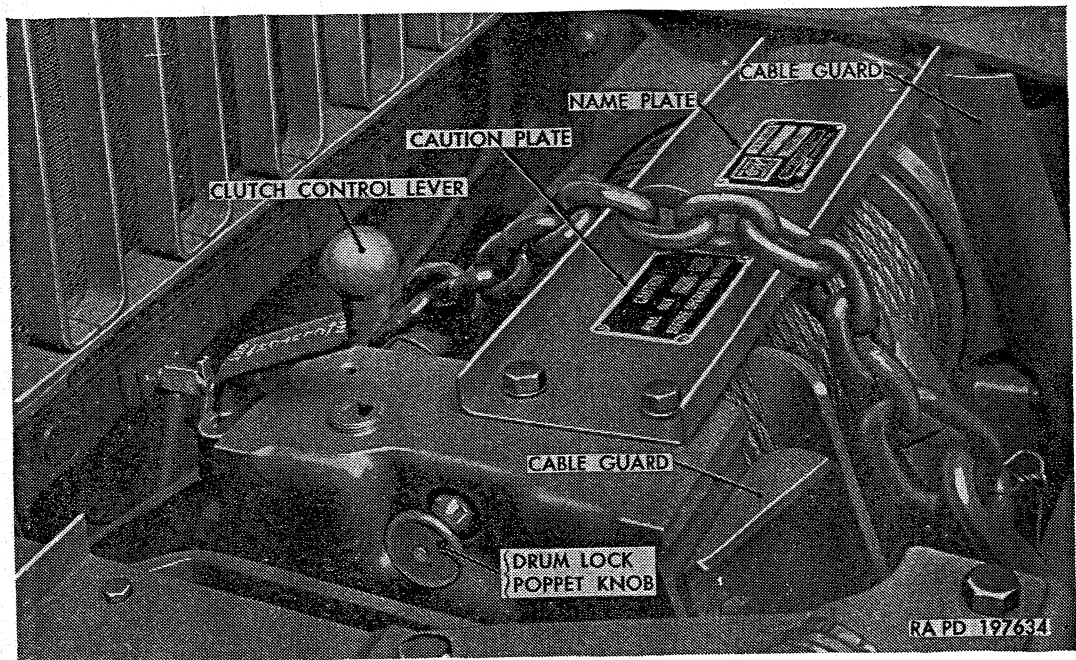

Figure 43. Controls at winch.
- (1) *Clutch control lever.* Hand-operated clutch control lever (fig. 43), located at right side of winch, is used to engage or disengage winch drum from power-take-off drive shaft. On late vehicles, the lever handle is marked CLUTCH IN with an arrow pointing away from winch, and OUT with an arrow pointing toward winch. These markings indicate direction to move handle to place drum in engagement or out
- (2) *Drum lock poppet knob.* Knob (fig. 43) on right side of winch frame permits locking drum to prevent unwinding of cable when underway. To lock or engage drum, the knob should be completely in to permit the poppet to engage one of several holes in the flange of drum. To disengage drum to permit winch operation, pull out knob and turn one-quarter turn.
- (3) *Automatic controls.* An automatic safety brake in winch mechanism will sustain the load while power-take-off lever
- (1) Place power-take-off lever (in cab) into CENTRAL NEUTRAL position.
- (2) Push clutch control lever at winch (fig. 43) toward winch (or in direction of arrow marked OUT on lever handle). Push lever against stop on some vehicles. Winch cannot be operated by power-take-off with lever in this position.
- (3) Make sure that drum lock poppet knob at winch (fig. 43) is in locked position (par. 48d(2)) to engage a hole in flange of drum. Cable will not unwind in this position.
- (4) Insert cable chain and hook through one front towing shackle; then place chain hook in opposite front towing shackle.
- (1) *With vehicle stationary.*
- (a) Pull out drum lock poppet knob (fig. 43); then rotate knob one-quarter turn to unlocked position.
- (b) Pull clutch control lever (fig. 43) as far as possible (in direction of arrow marked IN on lever handle) away from winch drum to engaged position.
- (2) *Winching out vehicle with driving wheel assistance.*
- (a) At winch, pull out drum lock poppet knob (fig. 43); then rotate one-quarter turn to unlocked position. Pull clutch control lever as far as possible (in direction of arrow marked IN) away from winch drum to engaged position.
- (1) Paying out or unwinding cable under load should be accomplished from cab after controls at winch are positioned. At the winch, pull out drum lock poppet knob; then rotate one-quarter turn to hold in unlocked position. Pull clutch control lever as far as possible (in direction of arrow marked IN) away from winch drum to engaged position.
- (2) Place transmission shift control lever in N position; then start engine.
- (3) Place transfer lever in DOWN NEUTRAL position. Place power-take-off lever in UP REVERSE position.
- (4) With engine idling, place transmission shift control lever in F-2 in LOW RANGE position. Accelerate engine to pay out cable. Do not accelerate over one-third throttle.
- (a) At the winch (fig. 43), pull out drum lock poppet knob, and then rotate one-quarter turn to unlocked position. Pull clutch lever away from winch drum (in direction of arrow marked IN on lever handle) to engaged position. Attach cable hook to a suitable anchor to provide tension on cable while winding.
- (b) Push clutch control lever (fig. 43) as far as possible toward winch (or in direction of arrow on lever handle marked OUT). Pull out drum lock poppet knob and turn one-quarter turn to unlocked position.
- (d) At winch, wind in cable by means of clutch control lever (fig. 43). Pull lever away from winch (or in direction of arrow on lever handle marked IN) to engage winch drum. Push lever toward winch (or in direction of arrow on lever handle marked OUT) to disengage winch drum.